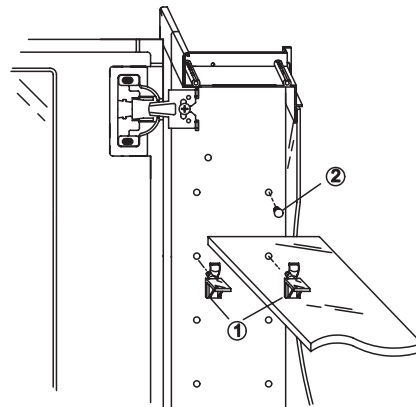

Fig. 13 图13
5. Installing the shelves- see Fig.13
5. 安装玻璃层板-见图13